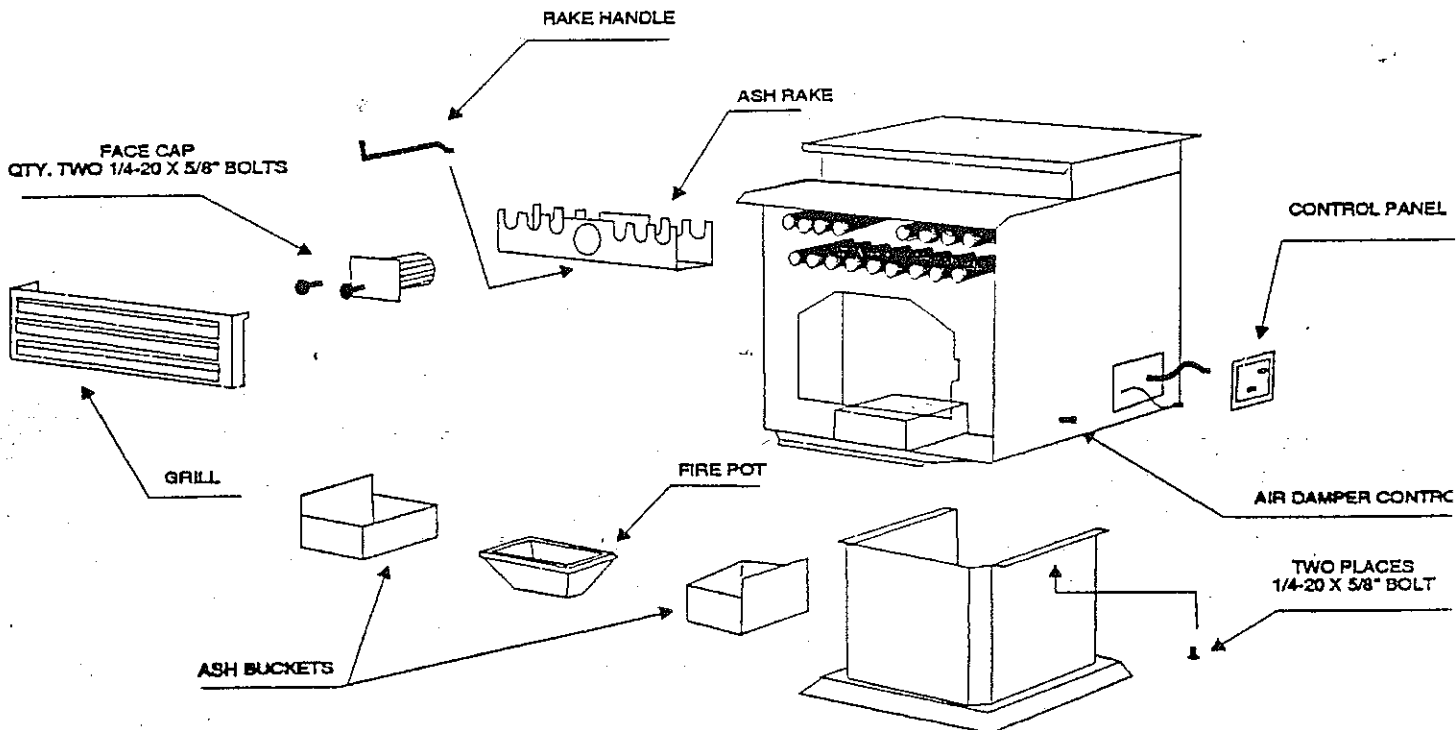

FIG. 8
d) This is a good time to inspect the 3" exhaust and the heat exchange area for any ash buildup. Remove as required with a brush or vacuum. FIG 8